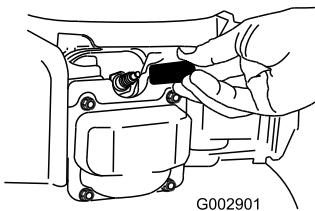

Figure 30
- Disconnect the spark-plug wire from the spark plug (Figure 30) before performing any maintenance procedure.